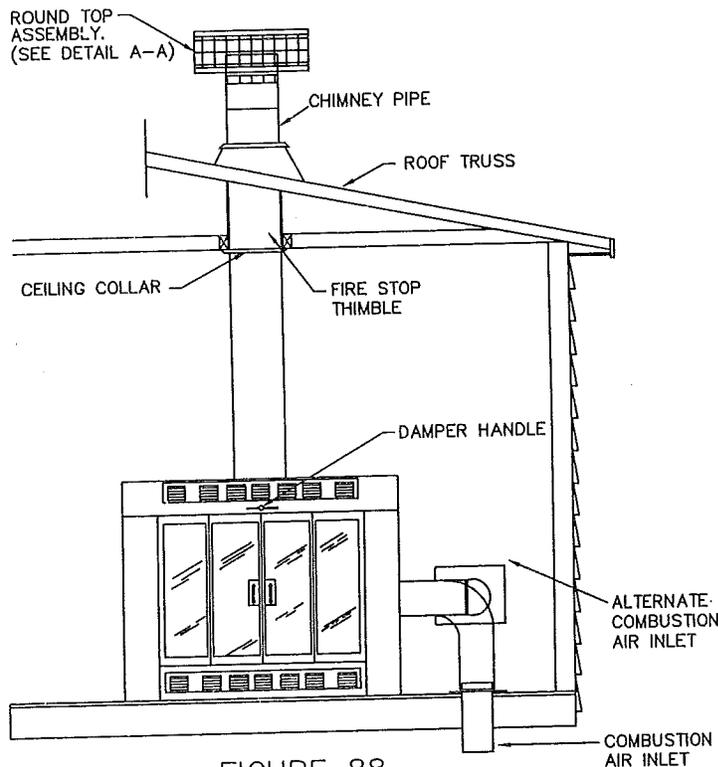

FIGURE 88
1. If your home is equipped with a built-in fireplace, it will be necessary to complete the installation of the round top assembly, rain cap, spark arrestor, and chimney pipe. See Figure 88.